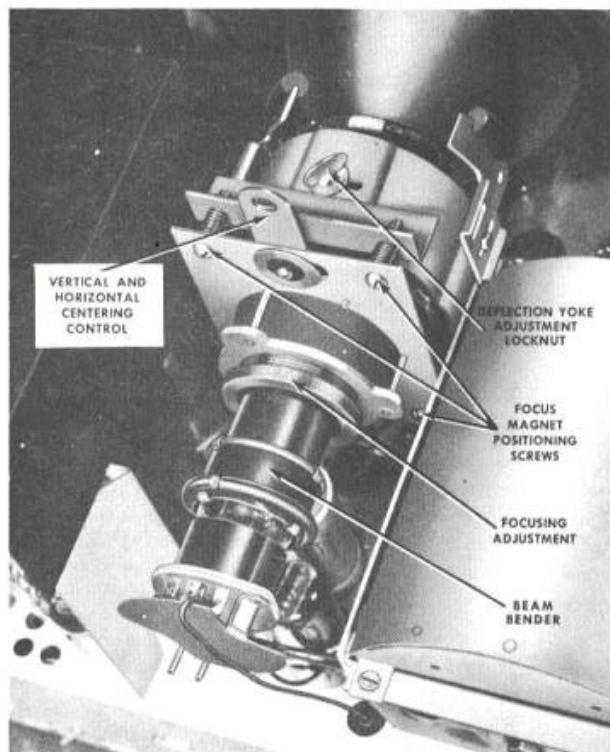

Fig. 29 Mechanical Focus and Centering Adjustments.
socket. (See fig.29). To make the adjustment, move and rotate the beam bender along the neck of the tube until the brightest picture with least shadow appears. It may be necessary to readjust the focus and intensity controls during the adjustment.
1. Adjust the magnet positioning screws (See fig.29) until the assembly is approximately 1/8 inch from the deflection yoke with the neck of the picture tube centered inside the focus shunt ring.